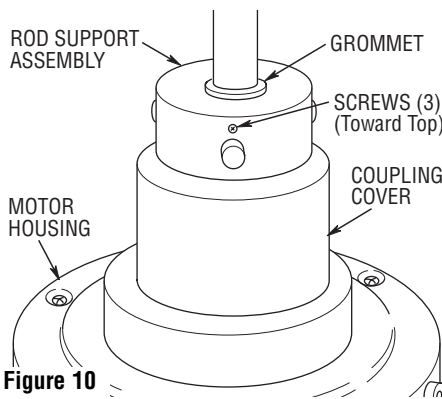

Figure 10
- 10. Make sure the grommet is properly installed in the coupling cover, then slide the coupling cover over the downrod until it rests on the motor housing. (Figure 10).
- 11. Make sure the grommets are properly installed in the rod support assembly. Then position the three screws in the rod support toward the top, and slide the rod support over the downrod (Figure 10).